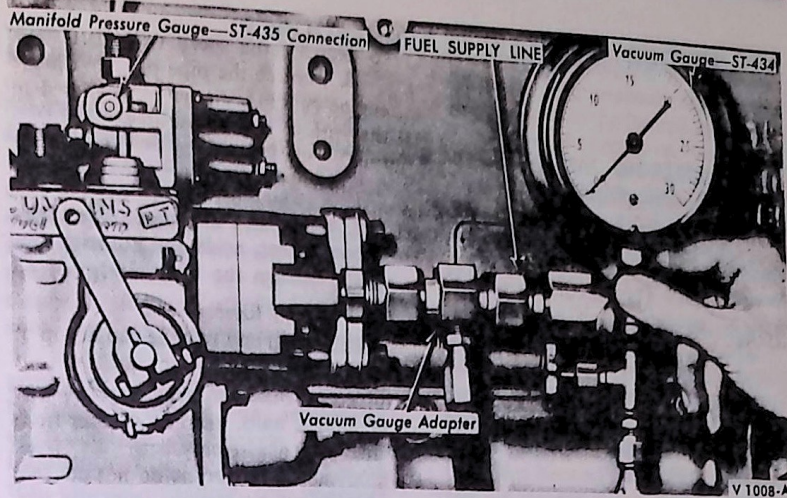

FIG. 102 Fuel Pump Gauge Connections
2. Install a vacuum gauge Cummins (ST-434) in the fuel supply line (Fig. 102). Check the suction restriction of the fuel supply line. If the vacuum reading exceeds 8 inches of mercury, determine the cause and correct.
1. Connect a manifold pressure gauge Cummins (ST-435) at the manifold pressure gauge connection (Fig. 102). Check the fuel manifold pressure at rated speed and full load.